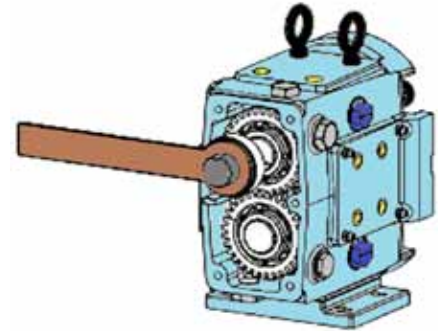

Figure 64 – Tightening Lock Nuts
6. Using a drift or spanner wrench tighten gear lock nuts, Figure 64.